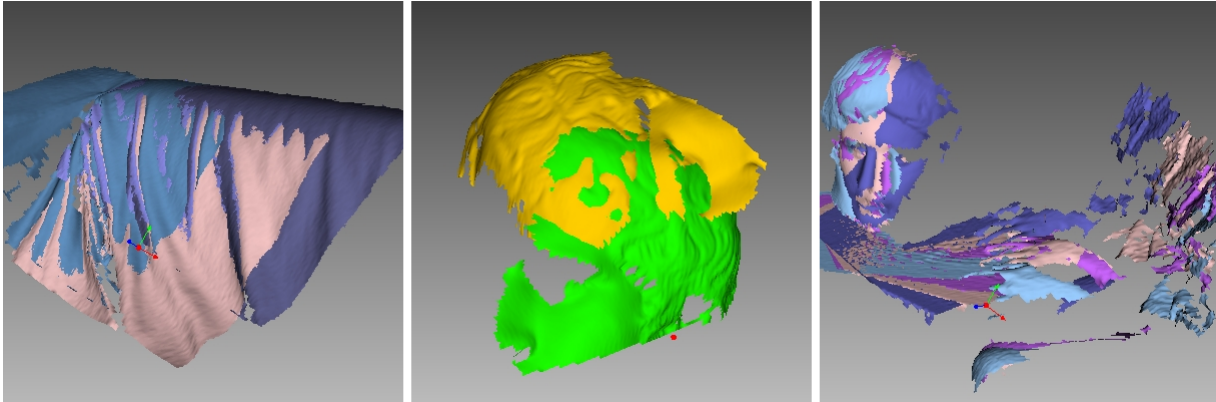

Figure 103: Possible scan errors.
- Misaligned frames (see Figure 103, left)—may occur because of small size, an insufficient number of geometrical features on the object or an insufficient number of polygons in a frame.
- Misaligned parts (see Figure 103, middle)—occurs when the real-time alignment algorithm incorrectly determines the position of the new frame relative to previous ones.
- Unwanted objects in the frame (see Figure 103, right).